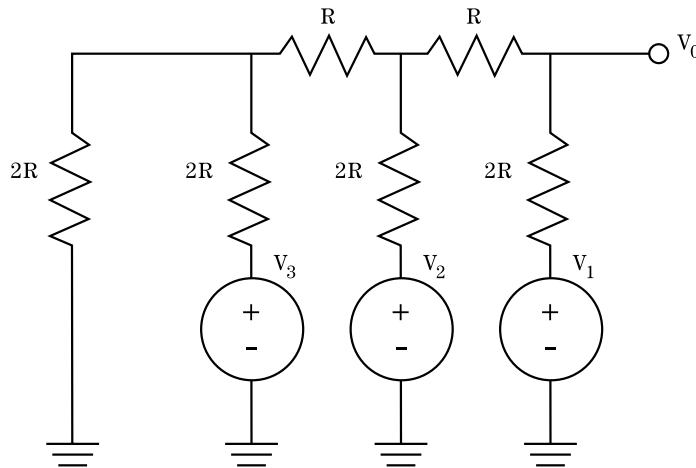

Figure 1
She has decided that the most efficient way to transmit the data is via an analog signal. This means the design must include a D/A (digital to analog) converter on the remote end, and a way to decode the data back into a format that can be read from a display by the system operator. To reduce the design time, she has divided her assignment into two parts. She will design the circuit to decode the analog signal and generate an appropriate display. She has assigned the D/A problem to you. Her specifications are that each increment in the binary number is to be represented by a 1 V increase in the signal on the conductor, e.g., a remote 001₂ produces 1 V, and a 101₂ produces 5 V. Your supervisor has told you the polarity of the signal doesn't matter. Luckily, she provided a terrific hint on a possible solution by recalling a circuit she built in college, an R-2R ladder circuit. On the back of an envelope, your supervisor drew a schematic similar to that of Fig. 1.
In your lab journal, provide a detailed circuit analysis that shows that the Thévenin equivalent of the circuit of Fig. 1, defined at v_o to ground, is:
Let the resistance R , in Fig. 1, equal $5.0 \text{ k}\Omega$. Design an OP AMP interface circuit for the R-2R ladder that will properly scale the signal to the specified voltage levels.
- With the power off, connect the circuit of Fig. 1. The goal is to measure v_o for every possibility in Table 1. Simulation of the two TTL signal levels (0 and 1) for v_1 , v_2 , and v_3 is accomplished by applying either 0 V or 5 V to the appropriate places in the circuit. Figure 2a shows an example of how this may be accomplished for $v_3 = 5 \text{ V}$, $v_2 = 0 \text{ V}$ and $v_1 = 5 \text{ V}$. Simply by connecting to “A”, 0 V is applied. To obtain 5 V, the resistor is connected to “B” as shown in Fig. 2b.